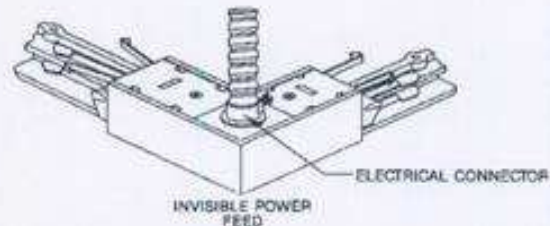

FIG. 3
1. Invisible power feed with conduit terminating with an electrical connector with a 1/8"-14 thread. (Fig. 3) (See instruction E. on Instruction Sheet IS:6121, supplied with track)